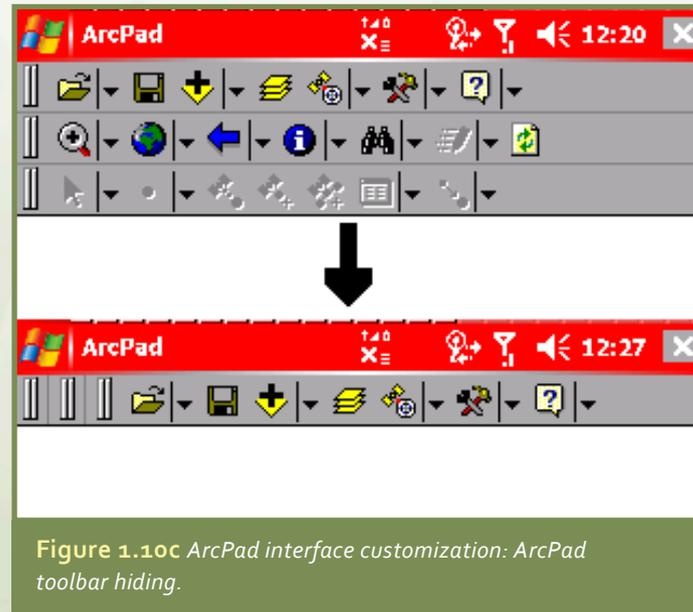

Figure 1.10c ArcPad interface customization: ArcPad toolbar hiding.
3. Click and hold the pair of vertical gray bars at the left end of any toolbar with the stylus or mouse and drag it onto one of the other toolbars. The first toolbar will disappear and an extra pair of vertical gray bars will display at the end of the toolbar you dragged it onto. If three toolbars are displayed, you can drag two of them onto the other until the screen changes from the top to the bottom layout in **figure 1.10c**. By clicking on a pair of vertical gray bars, you restore the hidden toolbar, which replaces the one that was previously active.